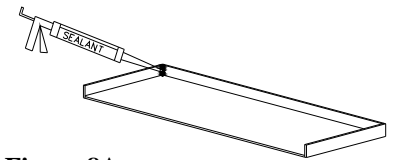
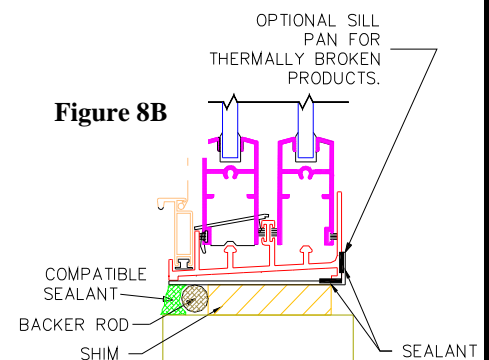

Figure 8A
Figure 8B
4. When product is thermally broken or I-mulled to another product and requires a sillpan, apply sealant in all corners or seams of sillpan to make pan watertight (See Fig. 8A). Insert sillpan into the opening and set on leveled shims and in a full bed of sealant. Apply (2) continuous beads of sealant to the inside corner (frame side) of the sillpan (See Fig. 8B). These beads of sealant will seal against the interior corner of the installed window frame. **Do not apply sealant to the exterior edge of the sillpan.**
5. Insert the window into the opening and onto the sillpan. Stuff closed cell backer rod (size dependant on shim space and determined by installer) in cavity and seal remaining cavity (See Fig 8B). Shim with non-porous, non-absorbent, inorganic shims at the head and jambs, cross measure and adjust as necessary to achieve a plumb, square and level condition, as well as an even reveal around the framed opening. Ensure that there are no crowns and dips in the head, jambs or sill. Secure the full perimeter of the window with corrosion resistant # 8 x 2" Pan Head Sheet Metal Screws with masonry anchors, if required, at 12 inches (maximum) on center. Note: Single and Double Hung Window Jambs are to be anchored with countersunk # 8 x 2" Flat Head Sheet Metal Screws with lead masonry anchors, if required, at 12 inches (maximum) on center. Fasteners should be staggered alternately from towards the exterior side of the frame to towards the interior side of the frame to ensure uniformity. Hinged and pivoted windows require additional fasteners located within 1 inch each side of the hinge or pivot. Seal all fastener heads during installation with compatible sealant.